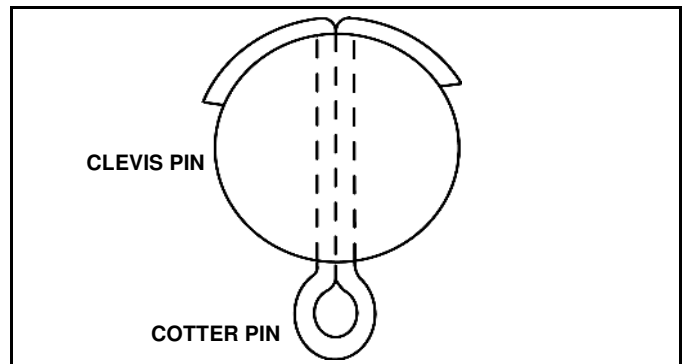
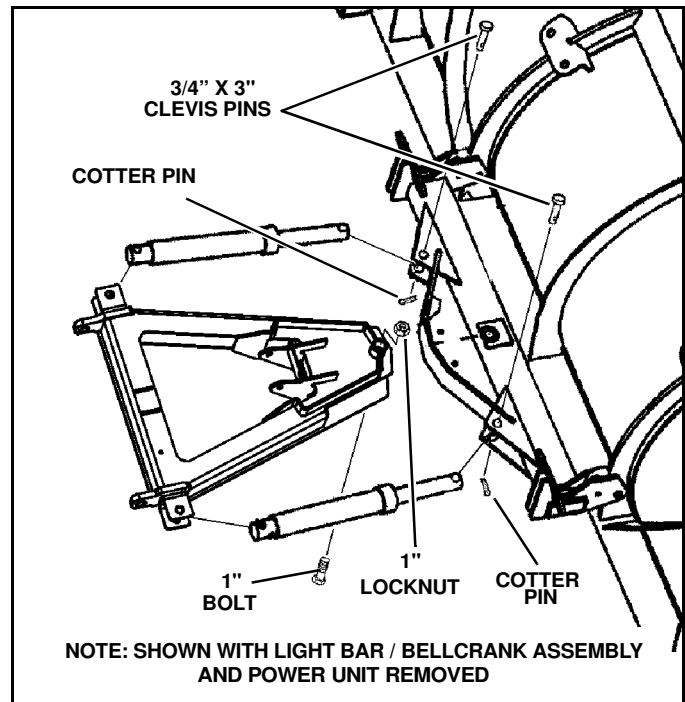
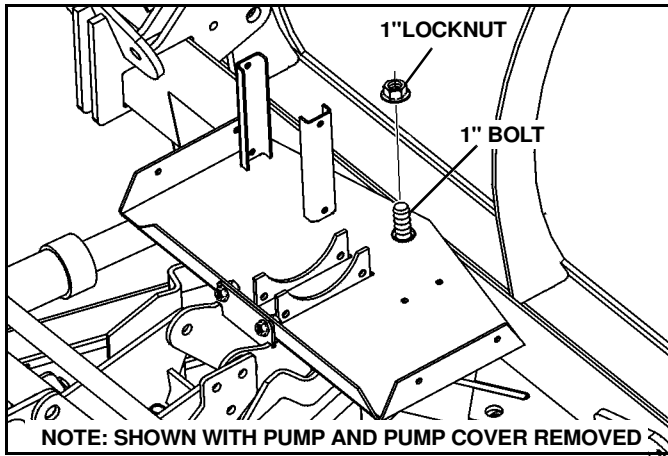

Figure 1-5
Figure 1-11
Figure 1-12
NOTE: Make sure cotter pin is properly bent or pin may work loose. (See Figure 1-5)
4. Remove 1" locknut and bolt. Slide swing frame into A-frame. Replace 1" bolt and locknut and tighten. (See Figure 1-11 and Figure 1-12)
6. Remove cotter pins and 3/4" clevis pins from rod end of cylinders. Reconnect the power and control. Extend cylinders using plow control to align holes in cylinder rod and swing frame. Insert 3/4" clevis pins and secure with cotter pins. (See Figure 1-11) Bend cotter pin as shown in Figure 1-5 to prevent it from working loose.